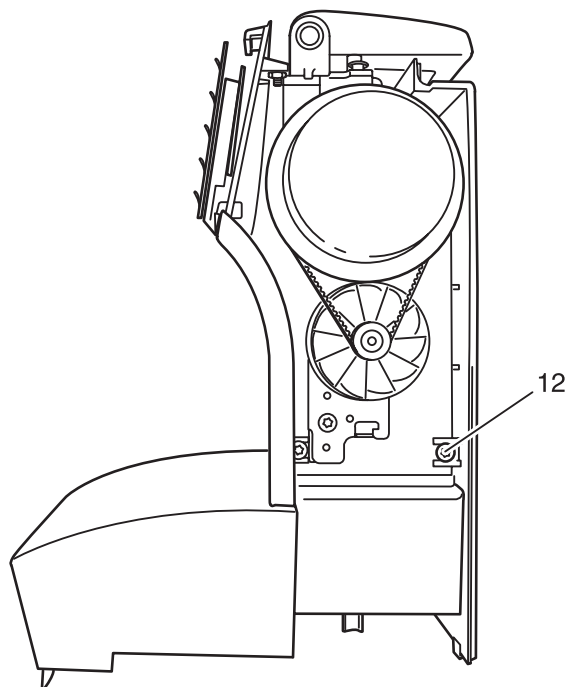

Fig. 9
- Remove fastening screw 12 and 13 on the rear housing shell (fig. 9 and 10).